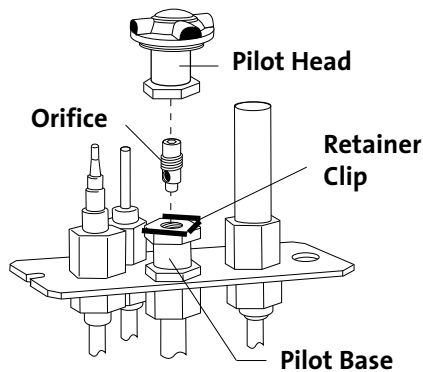

Figure 25. Pilot orifice removal and replacement.
11. CHANGE THE PILOT ORIFICE: From within the firebox, remove the Pilot Head by pulling it straight up from the pilot base. See fig. 25.